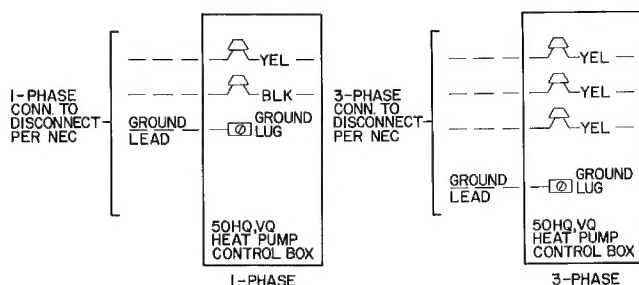
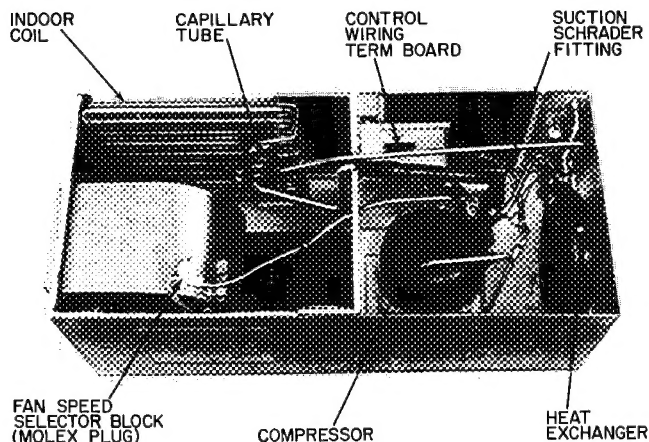

Fig. 6 — Line Power Connections
Fig. 7 — Typical Component Arrangement (50HQ014-042 Shown)
BRING POWER LEADS INTO UNIT — Extend leads from disconnect per NEC thru hole provided (Fig. 1 and 2) into line wiring splice box, Fig. 6.
CONNECT GROUND LEAD TO GROUND LUG IN SPLICE BOX for safety. Connect power wiring. See Fig. 6. Splice line power leads to yellow and black pigtails on single-phase units or yellow pigtails on 3-phase units. Use wire nuts. Tape each connection.
2. Locate Molex fan speed selector block on fan housing, Fig. 7. Selector block receptacle 1 is high fan speed, receptacle 2 is medium fan speed and receptacle 3 is low fan speed. Yellow and black fan motor power leads from control box are connected to selector block receptacle C and 1. Yellow lead is common, black lead is speed-change lead.
— Power leads are brought thru 1/2-in. hole provided in unit, Fig. 1 and 2. Extend leads to control wiring terminal board located on top of control box, Fig. 7. Connect leads to terminal board as shown in Fig. 6.